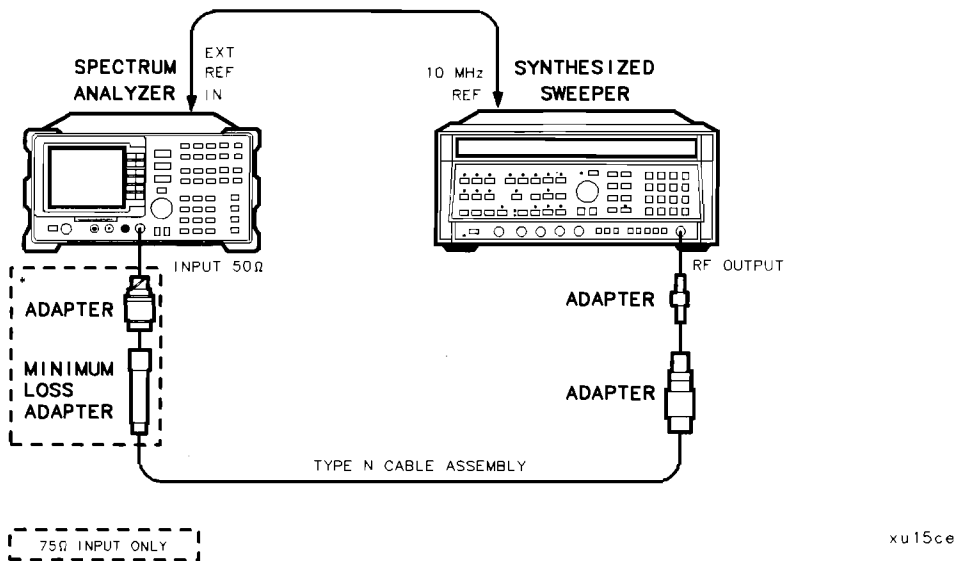

Figure 2-4. HP 8591E and HP 8591C Frequency Readout Accuracy Test Setup
1. Connect the equipment as shown in Figure 2-4. Remember to connect the 10 MHz REF OUT of the synthesized sweeper to the EXT REF IN of the spectrum analyzer.